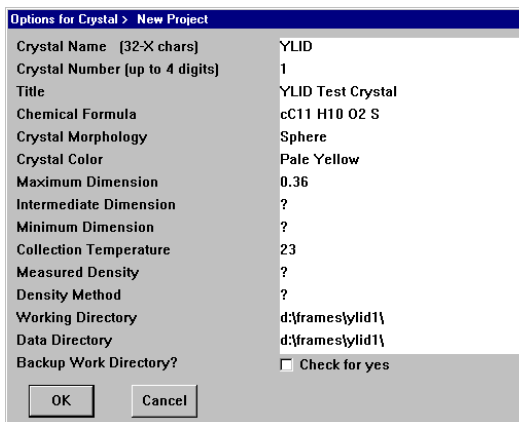

Figure 4-11. Options window
- Fill in all available information as shown (Figure 4-11). Note that you must specify a Project Name (lines 1 and 2) and a Working Directory and a Data Directory (which may be the same). You should also enter additional information specific to your specimen so that it will appear in the final structure report. When you are finished, click OK.